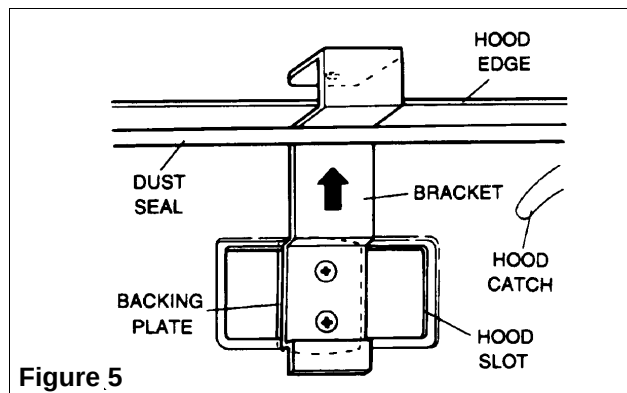

Figure 5
7. With hood in open position, remove each of the 4 attaching screws in brackets, one at a time, and apply Loctite #242 or an equivalent adhesive to screw threads and re-install. Once all four screws are serviced, tighten screws into brackets securing deflector to car (see Figure 5). Make certain that brackets and Hood Deflector are centered.